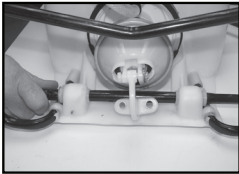

**Figure 1**
- 2) Remove the 2 screws attaching the pivot lever to the pump shaft (fig. 1)